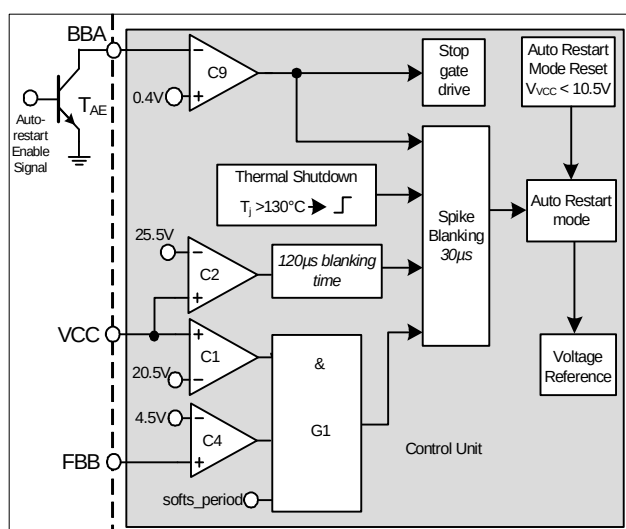

Figure 29 *V_{CC} OVP, OTP, external protection enable*
V_{CC} OVP (1) condition is when V_{VCC} voltage is > 20.5V, V_{FBB} voltage is > 4.5V and during soft start period, the IC enters into odd skip Auto Restart Mode. This condition likely happens during start up at open loop fault. (Figure 29).
V_{CC} OVP (2) condition is when V_{VCC} voltage is > 25.5V, the IC enters into odd skip Auto Restart Mode (Figure 29).
The over temperature protection OTP is sensed inside the controller IC. The Thermal Shutdown block keeps on monitoring the junction temperature of the controller. After detecting a junction temperature higher than 130°C, the IC will enter into the non switch Auto Restart mode. The F3R80 has also implemented with a 50°C hysteresis. That means the IC can only be recovered when the controller junction temperature is dropped 50°C lower than the over temperature trigger point (Figure 29).
base pin of an external transistor, T_{AE} at the BBA pin. When this function is enabled, it will enter into the non switch auto restart mode. The gate drive is stopped and there is no switching pulse before it is recovered (Figure 29).